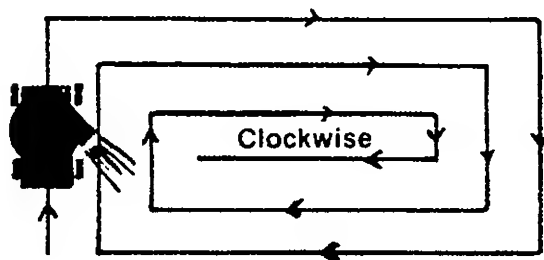

FIGURE 14.
- If you are going to remove clippings after you mow, start mowing at one side of your lawn and proceed around the lawn in a clockwise pattern. Using this pattern, the discharge chute will distribute clippings to a center spot for easier pick-up and removal. See figure 14.